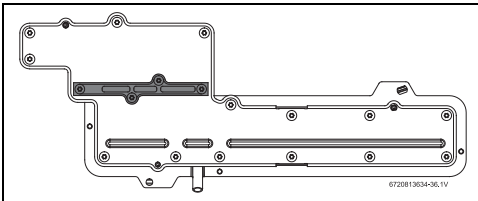

Fig. 35 Gas manifold
- ▶ The 3 restrictor plates should be pre-assembled onto their tray, but if loose in box, follow installation instruction, as shown in fig. 35 [1].
- ▶ Insert the LP conversion plate in the appropriate location shown in Fig. 35 [2].
- ▶ All three flow restrictors and seal must be assembled according to the Fig. 35, to assure correct appliance performance.